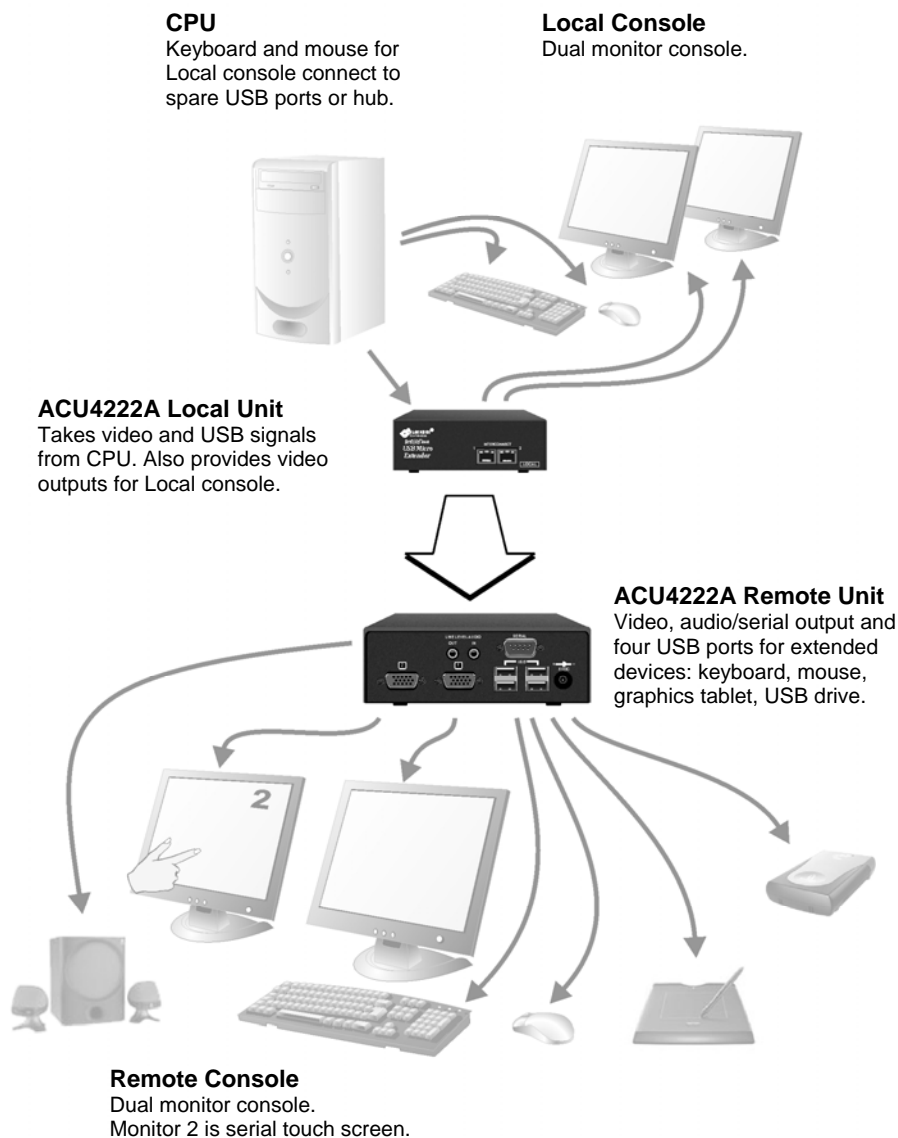

Figure 7
- Dual-monitor consoles with serial and audio extension (Figure 7). Analog audio extended without USB conversion using Interconnect 2 and monitor 2 at the remote console is a serial touch screen. Uses ACU4222A.